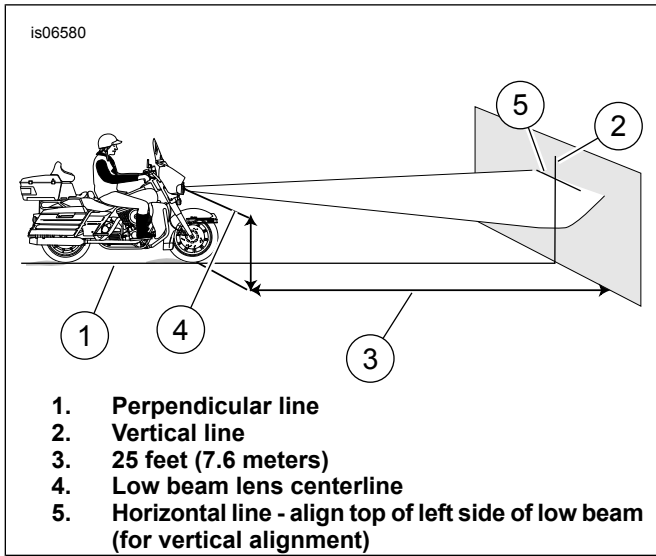

Figure 3. Checking Headlamp Alignment
4. See Figure 3. Park the motorcycle on a line (1) perpendicular to the wall.
6. Draw a vertical centerline (2) on the wall aligned with line (1).
7. See Figure 3. With the motorcycle loaded, point the front wheel straight forward at wall.
8. Measure the distance (4) from the floor to the center of the **low beam** bulb.
10. On the wall, draw a horizontal line (5) through the vertical line (2) at the same height measurement as the low beam bulb centerline.